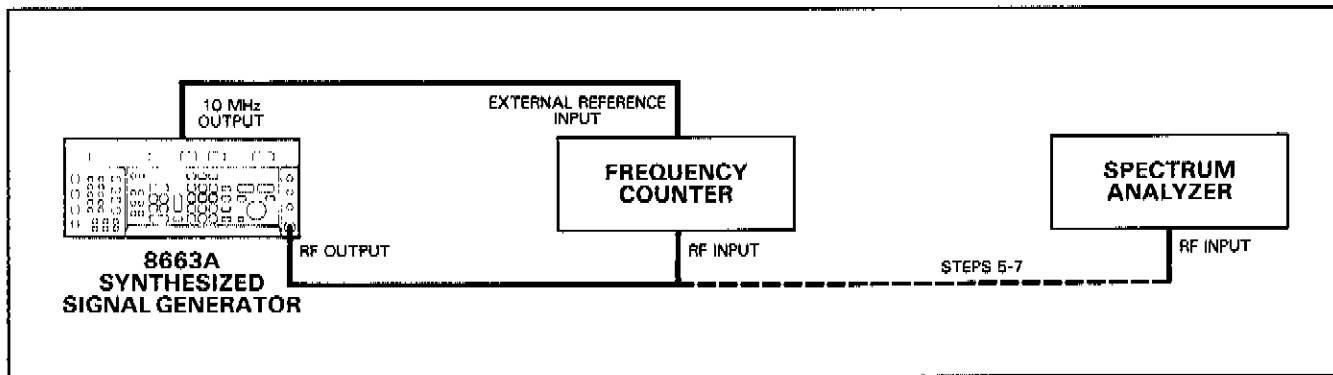

Figure 4-1. Operation Verification Amplitude and Frequency Test Setup
1. Connect the instruments as shown in Figure 4-1 and apply power.
14. Turn off the Signal Generator's Φ M modulation. Set the Generator's RF frequency to 640 MHz and the output amplitude to +10 dBm. Reconnect the spectrum analyzer as shown in Figure 4-1 and set the span to 20 kHz/division with a center frequency of 640 MHz. Center the signal on the spectrum analyzer's display and adjust the signal peak to the spectrum analyzer's amplitude reference level. Set the BPSK modulation frequency to 10 kHz with an increment value of 1 kHz. Increment the modulation frequency to 99 kHz using the Increment up key. Verify that the center frequency is greater than 20 dB down from the reference level.